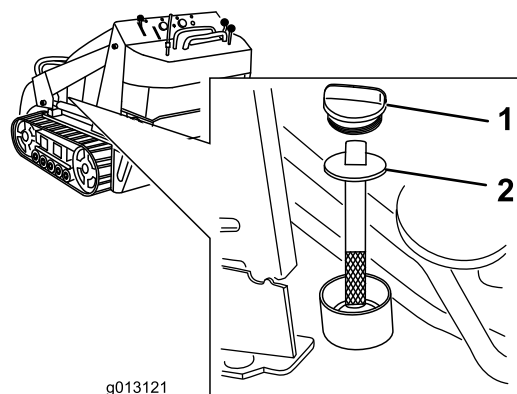

Figure 60
5. Remove the hydraulic-tank cap and dipstick (Figure 60).